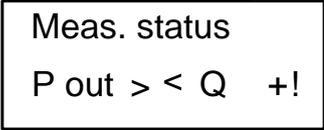

Fig.4. Status word of discrete pressure outputs and FRT1(2)
- 4.2. Faults and abnormal situations, diagnosed by RCC, indicated in the window **MEAS / Meas. status**– in the form of status word (Fig.4).